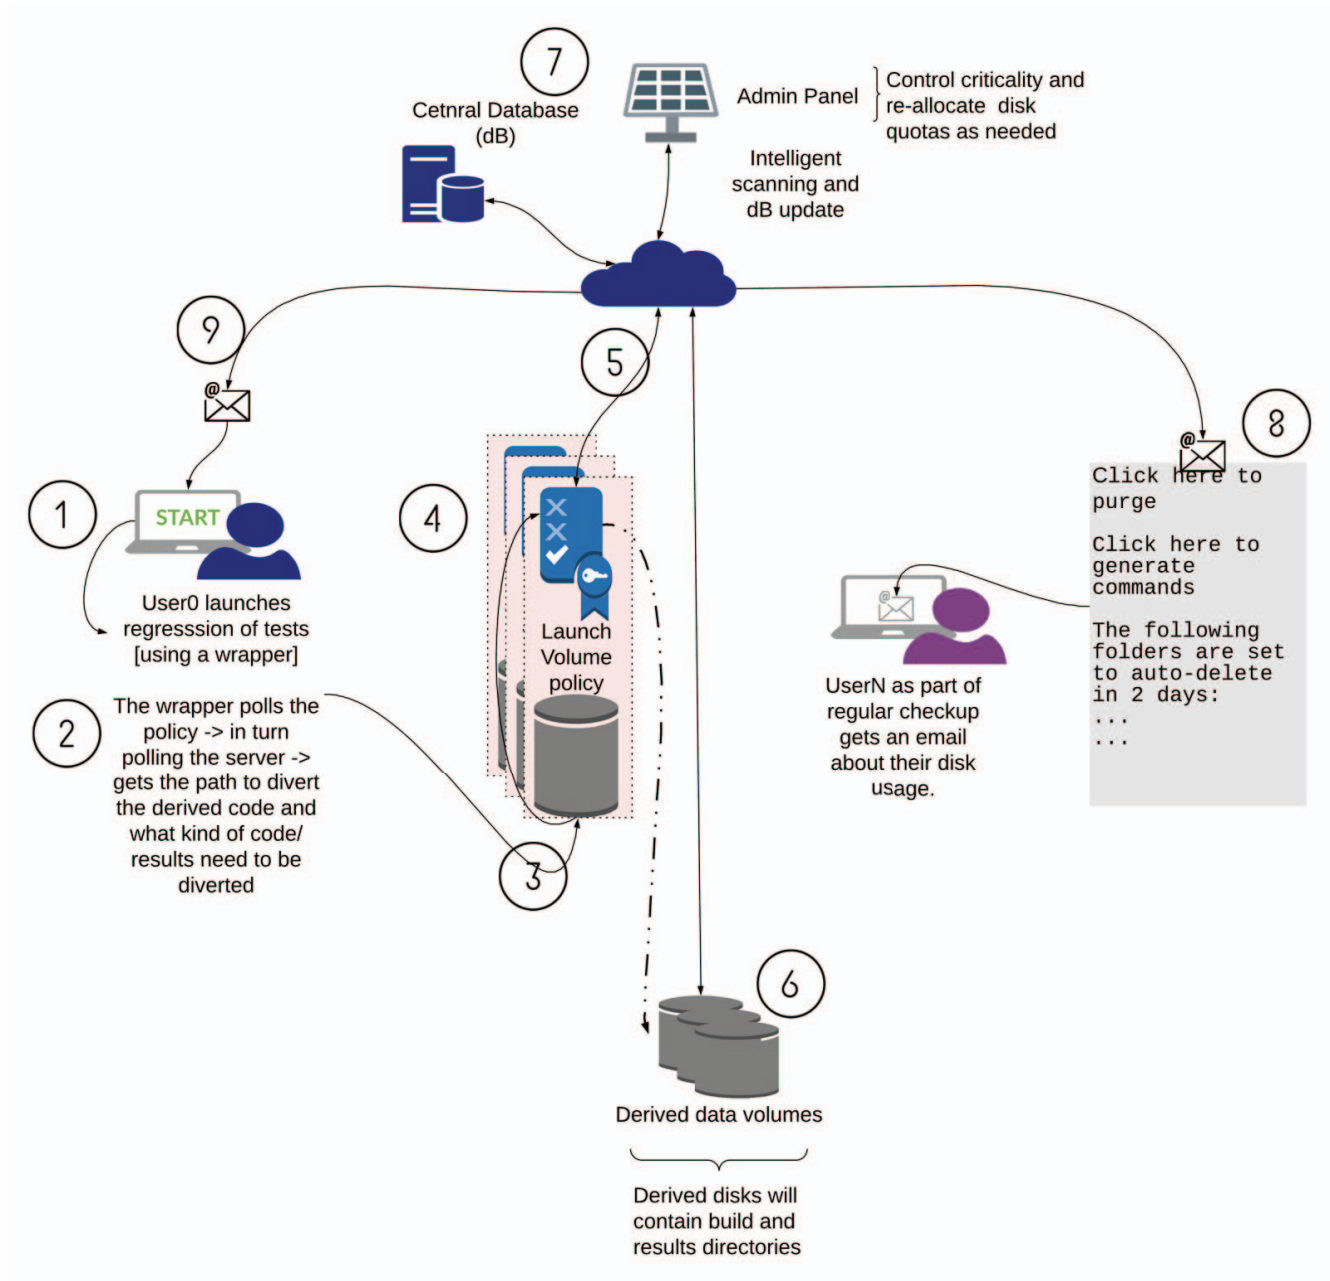

Figure 7. Overall workflow
8) *Guidelines:* Turn off waveform generations in regression tests. Add it as a guideline to your Design Verification (DV) engineers and then provide options to your regression which can override any "-waveform" with a "-nowaveform". Or re-run only failing tests to produce waveforms.
A. Figure 7 explains how a user would start the process: